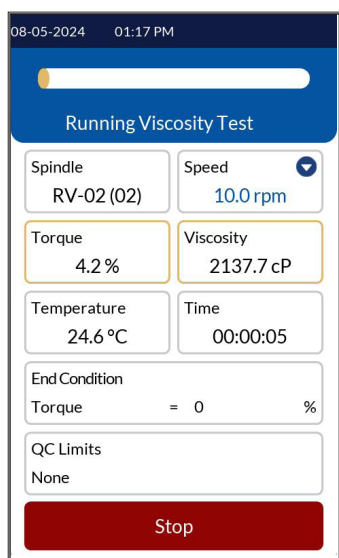

Figure 3-4.1
- To make a viscosity measurement, press the Run button. If using the “None” End Condition, allow time for the indicated reading to stabilize. The time required for stabilization will depend on the speed at which the Viscometer is running and the characteristics of the sample fluid. The live test data shows on the touch screen display. The Bar at the top of the screen is a torque meter. If the torque exceeds 100%, the bar will turn red to alert the operator of a potential problem. **Figure 3-4.1**